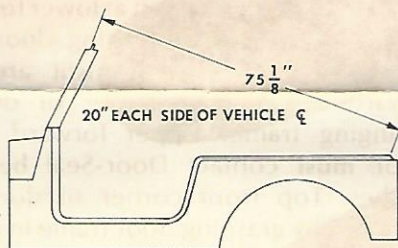

FIGURE 2
B. (4107 Top) Adjust CJ-7 windshield as shown in Figure 2.